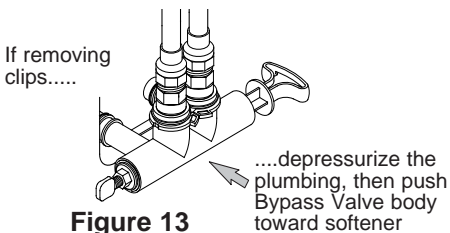

Figure 13
5. Check for leaks around clips at softener's inlet and outlet. If a leak occurs at a clip, depressurize the plumbing (turn off the water supply and open faucets) before removing clip. When removing clips at the softener's inlet or outlet, push the single bypass valve body toward the softener (See Figure 13). Improper removal may damage clips. Do not reinstall damaged clips.